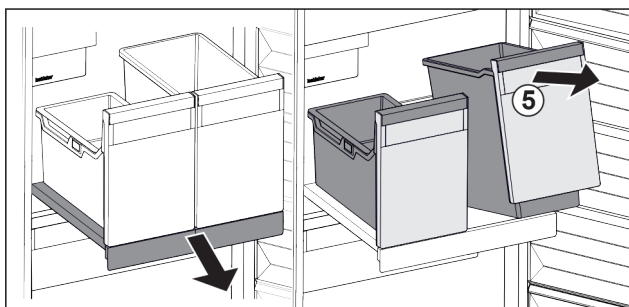

Fig. 25
- Lift the container Fig. 25 (5) at the front.